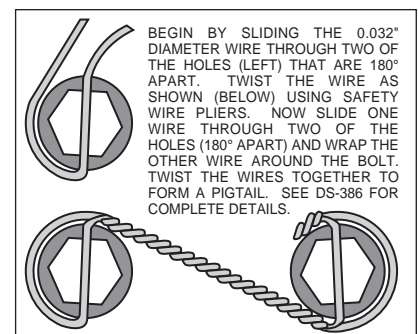

Figure 3. Safety Wire Diagram
- The caliper mount bracket assembly (1) should be installed first with clean, dry threads on the mounting bolts. Install the bracket from the rear side of the spindle by sliding the upper mounting bolt (2) through lock washer (3), flat washer (4), and through the upright into the upper bolt hole on the caliper mounting bracket (1). Attach the lower portion of the bracket (1) from the backside on the caliper mounting bracket by sliding bolt (5) through lock washer (6), flat washer (7) and into the lower hole on the backside of the spindle face plate. The bracket must tighten squarely against the inboard side of the spindle face plate/upright. Inspect for interference from casting irregularities, machining ridges, burrs, etc. If everything fits correctly, then remove the mounting bolts (2 and 5) and coat threads with red *Loctite*® 271 and reinstall. Torque bolt (2) to 65 ft-lbs., and bolt (5) to 42 ft-lbs.
- Install wheel studs (8) into the hub (9). Torque to 77 ft-lb. **NOTE:** There are two lug patterns of five holes each in the hub (5 x 4.50 and 5 x 4.75). Make sure of the correct hole pattern for the wheel application before installing the studs into the hub.
- Pack the large inner bearing cone (10) with high temperature disc brake bearing grease (available from your local auto parts store) and install into the backside of the hub (9).
- Install the grease seal (11) into the backside of the hub (9).
- Pack the small outer bearing cone (17) with high temperature disc brake bearing grease and install into front side of the hub (9). Slide the hub assembly (9, 10, 11 and 17) onto the spindle. Secure using spindle washer (18), stock adjusting nut, and nut locking device. Adjust wheel bearing pre-load per Original Equipment Manufacturer (OEM) specifications.
- Install the O-ring (20) and the dust cap (19) into the hub (5). **NOTE:** O-ring (20) friction will not allow cap (19) to unscrew on its own.
- With the larger I.D. side of the rotor (12) facing away from the hat (13), bolt rotor (12) to hat (13) through the backside of the rotor using washers (14) and bolts (15). Torque bolts (15) in an alternating sequence to 85 **in-lb**. Safety wire bolts (15) using standard 0.032 inch diameter stainless steel safety wire as shown in Figure 3. Please refer to Wilwood's data sheet DS-386 (available at [www.wilwood.com/pdf/ds386.pdf](http://www.wilwood.com/pdf/ds386.pdf)) for complete safety wire installation instructions.
- Slide the rotor/hat assembly over the studs (8) in the hub (9) taking care to align the small countersunk holes in the hat (13) with the small threaded holes in the hub (9). Install three flat head socket head screws (16) through the small holes in the hat (13) and torque to 85 **in-lb**. Check to be sure the hat seats squarely against the spindle.
- Install one washer (25) over each pre-installed stud (24) on the radial mount bracket (1). Slide the caliper (21) in place over the studs and rotors, then install the washer (23) and lock nut (22) to hold the caliper in place. The caliper bleed screws should be pointing up.
- Remove the caliper center bridge pad retainer bolt, nut, and tube from the caliper. Slide the brake pads (26) into place. They should install easily without interference. Check that the outside radius of the brake pad is aligned with the outside diameter radius of the rotor face. Add or subtract shims (25) between the caliper and mount bracket to gain the proper alignment. Lubricate caliper mounting studs and nuts with lightweight oil, reinstall the caliper and torque the caliper nuts (22) to 30-35 ft-lb. Reinstall the center bridge pad retainer tube, bolt, and locknut. The locknut should be snug without play in the bolt or tube. Be cautious not to over tighten.